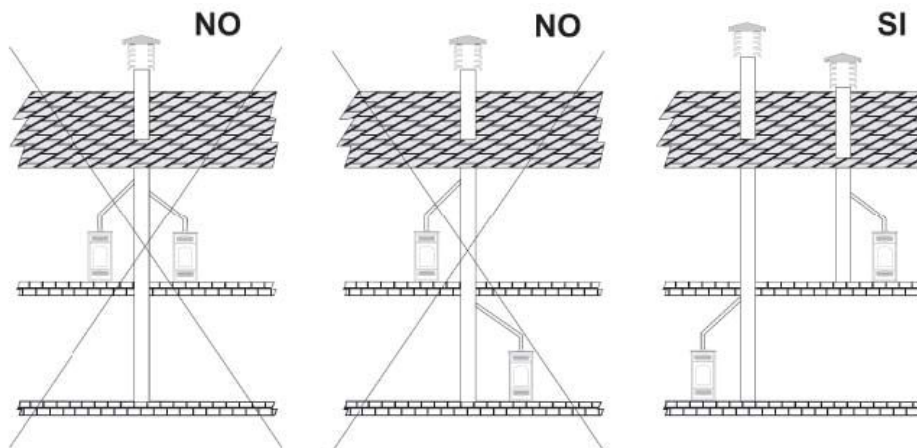

Fig 1
- It must not be connected to any other fireplace, stove, boiler, or hood of any kind (fig. 1).